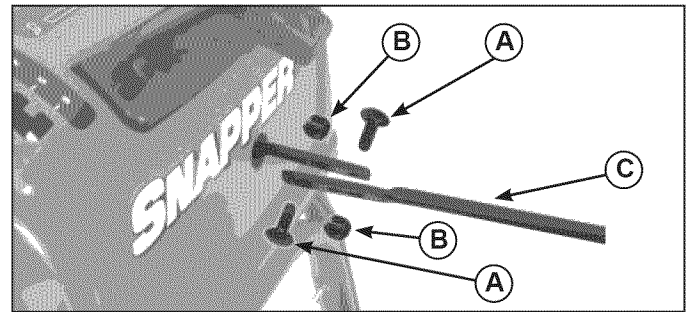

Figure 45. Split Rod Assembly
5. Loosen the belt guide (B, Figure 45). Pull the belt guide away from the auger drive pulley (C).
6. Pull the auger idler pulley (K) away from the auger drive belt (D) and slip the belt off of the idler.
7. Remove the auger drive belt (D) from the engine pulley. To remove the auger drive belt (D), the auger drive pulley (C) may have to be partially rotated.
9. Using a 7/16 wrench, remove the 2 carriage bolts (A, Figure 45) and 2 lock nuts (B) from chute rod (C).